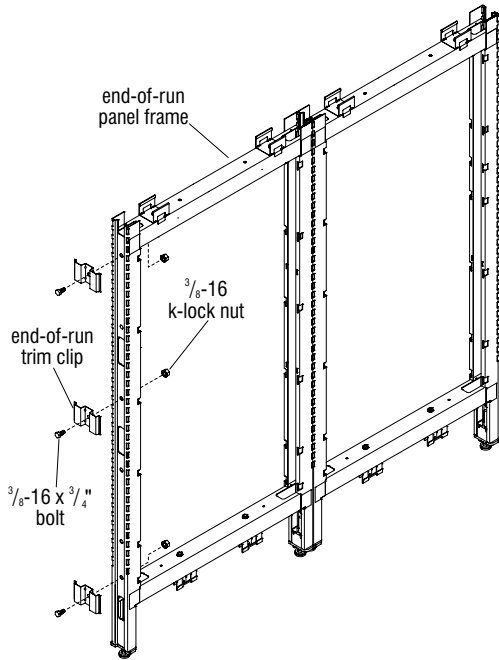

Figure 18 - End-of-Run Trim Clip Installation
1. End-of run trim clips attach to the panel using a  $\frac{3}{8}$ -16 x  $\frac{3}{4}$ " hex head bolt and  $\frac{3}{8}$ -16 k-lock nut. All end-of-run panels, except the shortest 32" high panel will require three clips installed (see End-of-Run Trim Clip Charts below). Attach one end-of-run clip at the lowest mounting hole in the frame, one clip at the highest, and the third end-of-run clip approximately 30" from the floor, near beltway height (Figure 18).